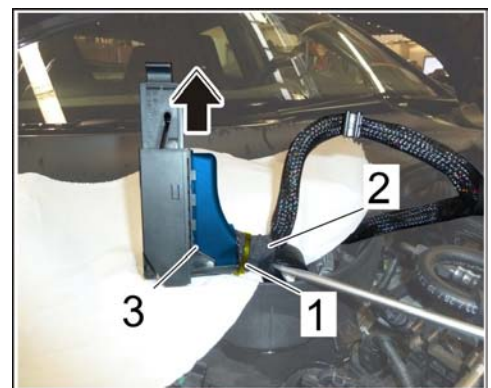

Figure 2
- 4.1 Remove tie-wrap ⇒ *Figure 2 -1-* and fabric tape ⇒ *Figure 2 -2-* from the three wire harnesses for the connector.
- 4.2 Slide the cover of the connector ⇒ *Figure 2 -3-* forward using a screwdriver ⇒ *Figure 2 -arrow-* and remove it.